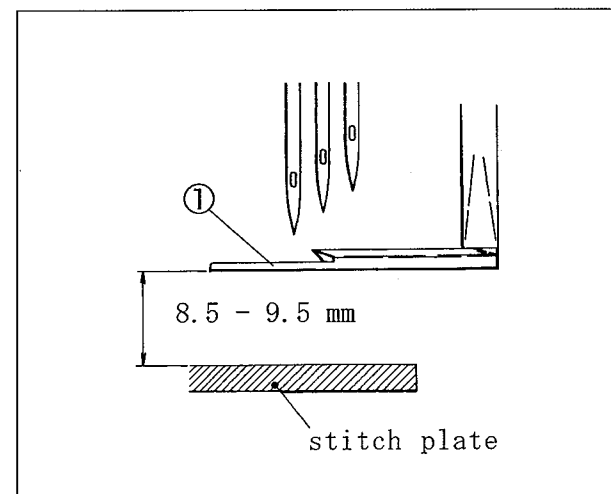

Fig. 46
- (4) Make the height from the top of the stitch plate to the bottom of the spreader to 8.5 - 9.5 mm. Then tighten the screw ③ securely. (Figs. 46 and 47)